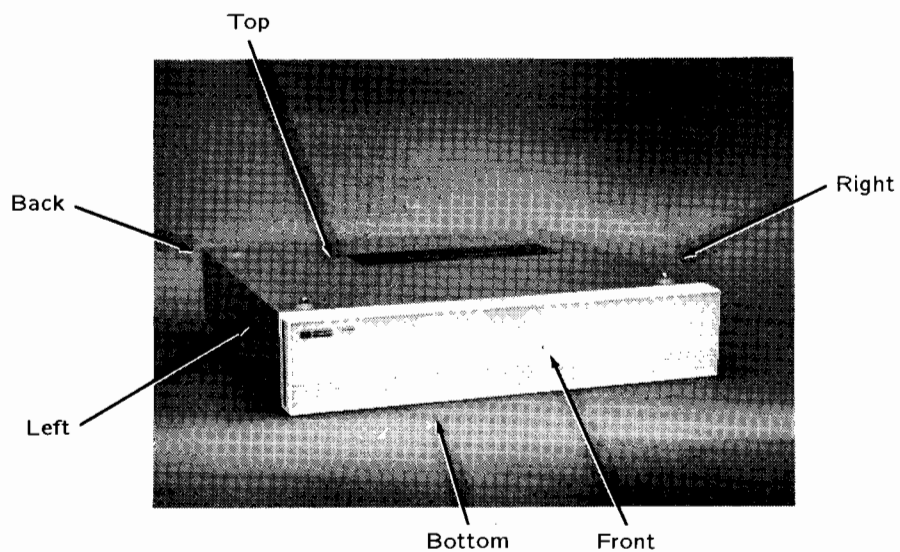

Figure 2-3. Expanders Hardware Orientation
- Hardware orientation shown in Figure 2-3.